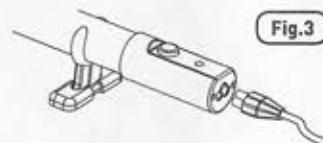

Fig.3
- Before installing the heater it is recommended that the power cable is attached by pushing it fully into the heaters power cable socket [FIG.3].